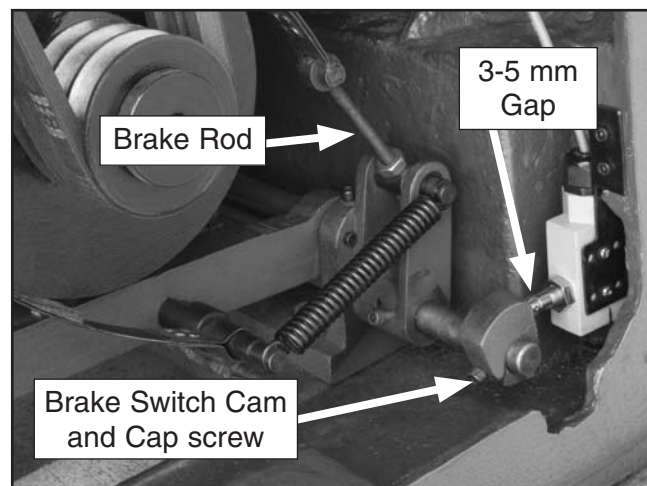

Figure 107. Brake band and switch.
3. Use a 16mm wrench and adjust the brake rod (**Figure 107**) so, when the foot pedal is pressed, the brake band firmly clamps the drum. When released the brake band should be loose on the drum.
4. Use a 5mm hex wrench and adjust the brake switch cam so when in the released position, there is 3 to 5mm gap between the cam and the brake switch pushrod (**Figure 107**).